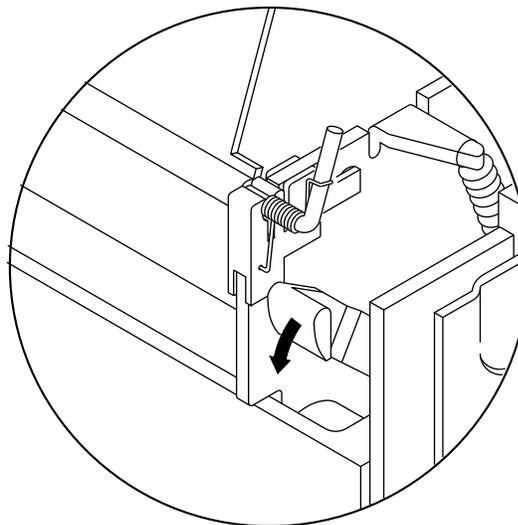

Figure 12 Pulling the door lever to the front
11. Holding the door up directly above the hinge pin, pull the door lever to the front, as shown in Figure 12.